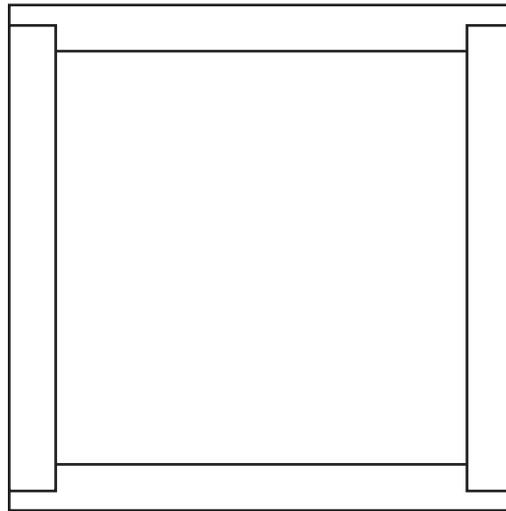

Fig. 12
(d) Fig. 12 shows the four sides of the notelet holder ready to be glued.
- (i) Add sketches and notes to Fig. 12 to show how the sides could be held together while the glue sets, without the use of sash cramps or G cramps. [2]